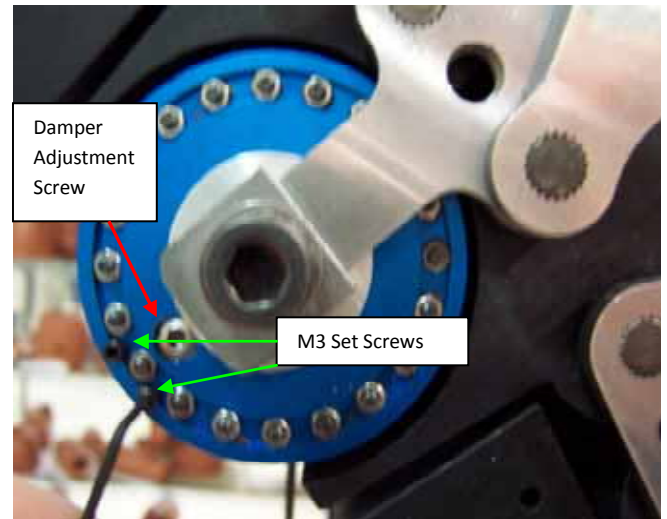

Figure 87 - Damper Adjustments
2. Clamp cable to damper with both M3 set screws. (Figure 87). On older dampers that use only one M3 set screw, add one drop of Loctite 401 or equivalent, to cable and set screw where they are touching each other, after clamping.